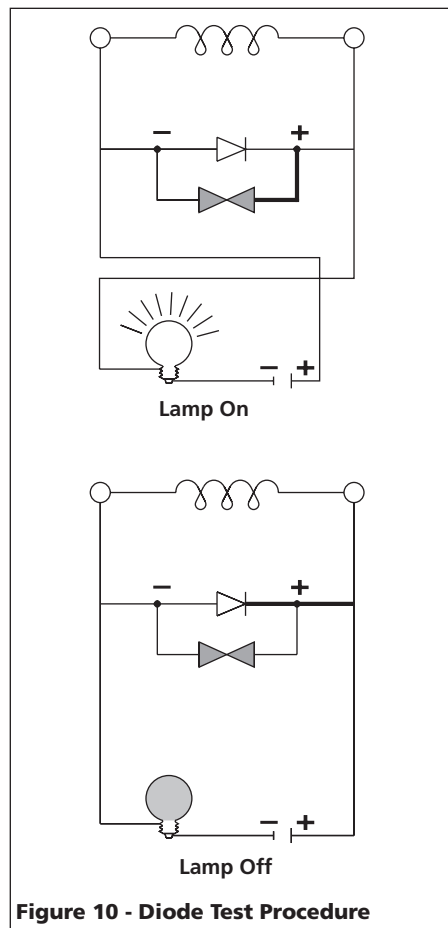

Figure 10 - Diode Test Procedure
2. Connect the battery and lamp as shown in Figure 10.